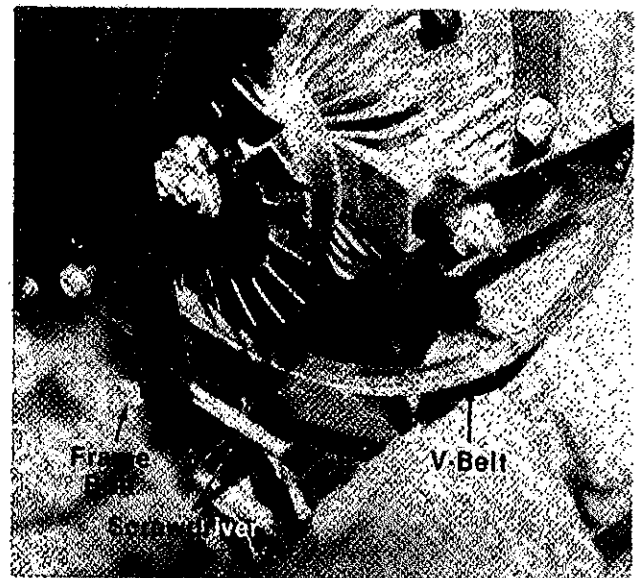

FIGURE 29.
7. Loosen the frame bolt holding the rear axle bracket to the frame. See figure 29.